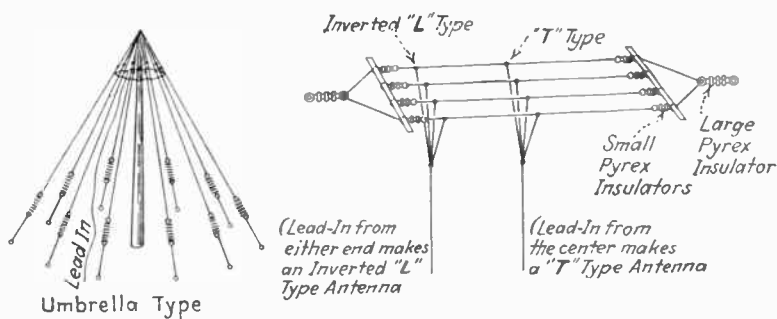

FIG. 29.—Antenna systems.
*Ans.* Three types of antenna systems (transmitting) are the inverted L (I), the T, and the umbrella. Figure 29 illustrates these three types.